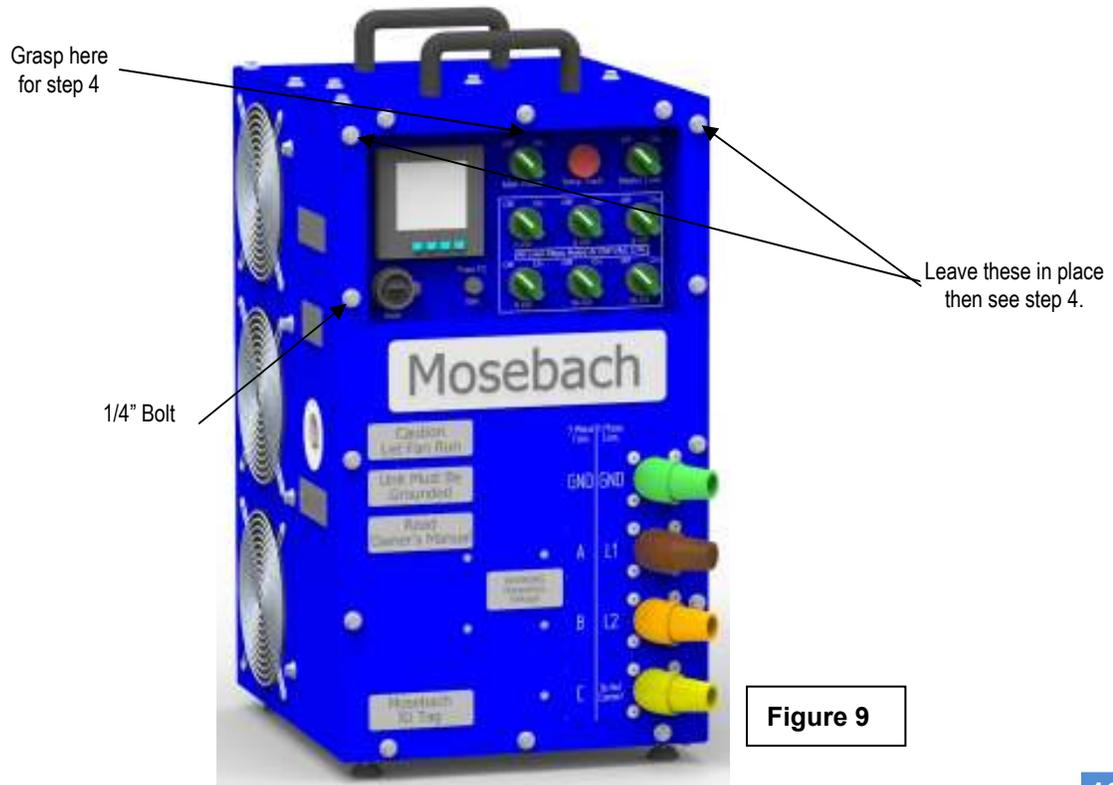

Figure 9
1. Using a 7/16" socket or wrench, remove the top three and 9 lowest bolts that line the outer perimeter of the switch panel, while leaving the two bolts shown in figure 9 in place.
1. Open the unit exactly as described under "Replacing Fuses" (see Figures 9 & 10)